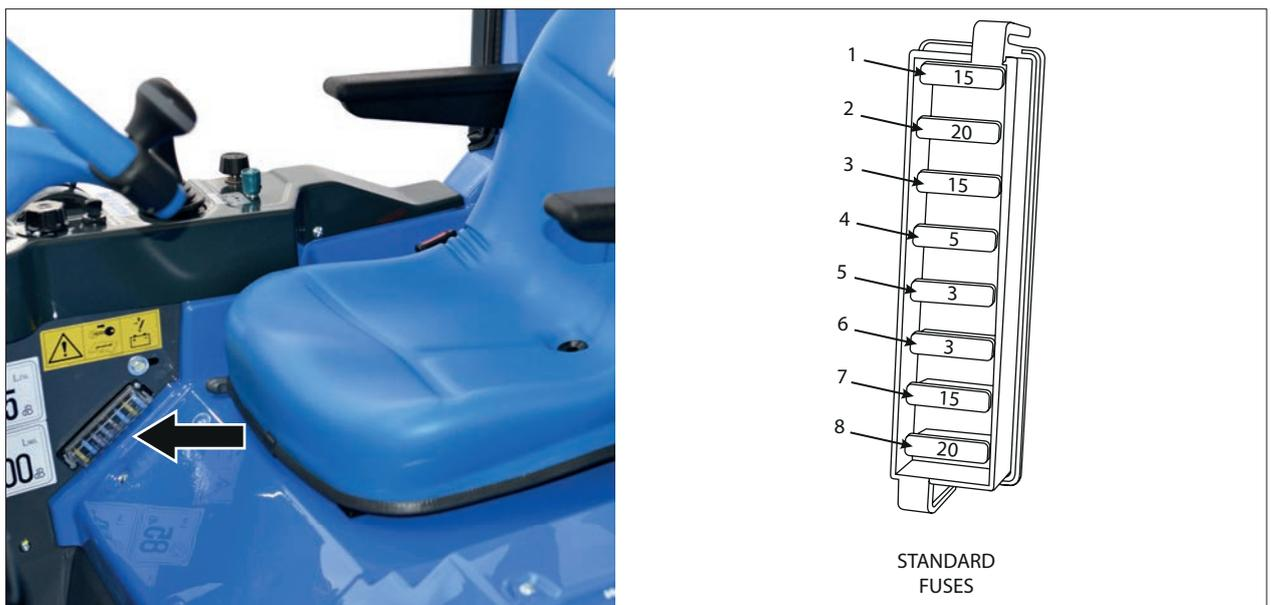

FIG. 38
- 1) Remove the cover located on the right inner side of the machine (see FIG. 38).